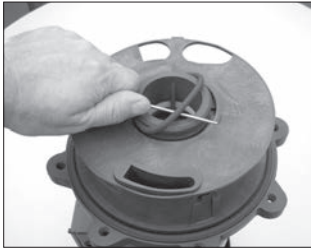

Figure 16
- Carefully remove the inner volute o-ring (item 5). See figure 16. Inspect for chemical attack, swelling, brittleness, cuts, etc.